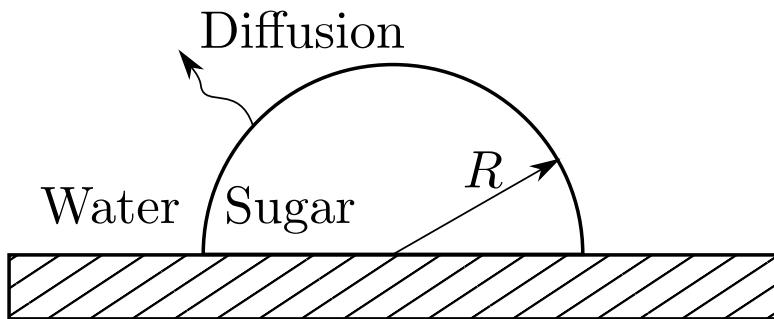

Figure 26: The lump of dissolving sugar.
- b) A hemispherical lump of sugar, initially of radius $R = 0.005 \text{ m}$, is dropped into a cup of tea, quickly coming to rest on the bottom of the cup as shown in Fig. 26. The sugar lump then slowly dissolves into the tea. The diffusion coefficient of sugar in tea is $4 \times 10^{-10} \text{ m}^2 \text{ s}^{-1}$. The saturation mole fraction of sugar in tea is 0.1 and the total molar density of the system is $c = 55 \times 10^3 \text{ mol m}^{-3}$.